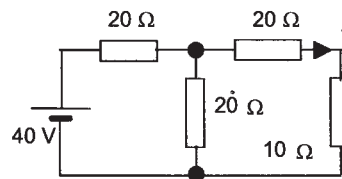

Figure 18.37 Problem 2
- 2 Using Thévenin's theorem, determine the current I for the circuit shown in Figure 18.37.
- 6 Using Norton's theorem, determine the current I for the circuits shown in Figure 18.37.